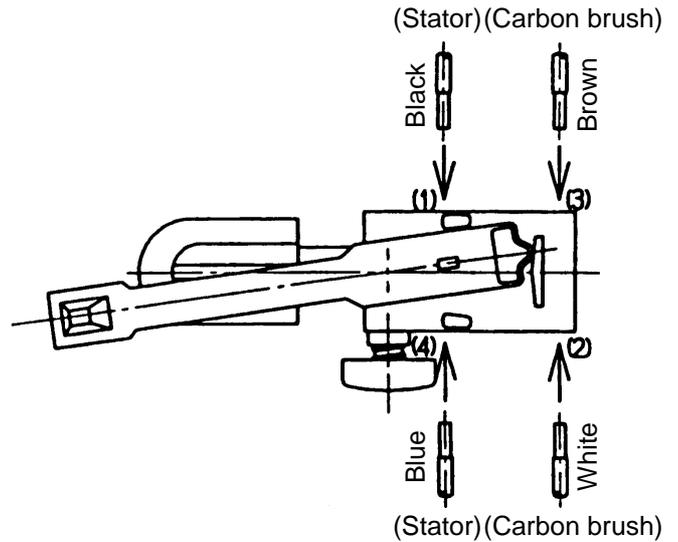

Fig. 24 Wiring of reversing switch (DV 20VB)
(1) Wiring of reversing switch (DV 20VB)
Insert the lead wire (black) coming from the stator into the terminal (1) of the reversing switch, and the lead wire (white) into the terminal (2) as shown in Fig. 24. Insert the lead wire (brown) coming from the carbon brush into the terminal (3) and the lead wire (blue) into the terminal (4). After insertion, pull each lead wire slightly to check the lead wires do not come off.